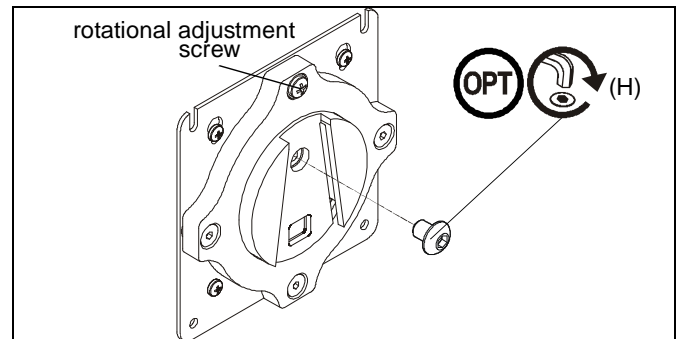

Figure 8
NOTE: (Optional) Rotational adjustment may be locked by installing rotational locking screw (H) into back of faceplate. (See Figure 8)
7. Use 3/16" hex key (Q) to adjust rotational adjustment screw to adjust rotational tension. (See Figure 8)